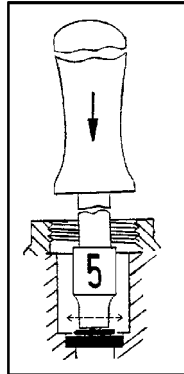

Figure 5-23: Tilting the Flow Restrictor
4. Using a 5mm nut-driver; press and tilt the Restrictor to the side; as shown in figure 5-23.